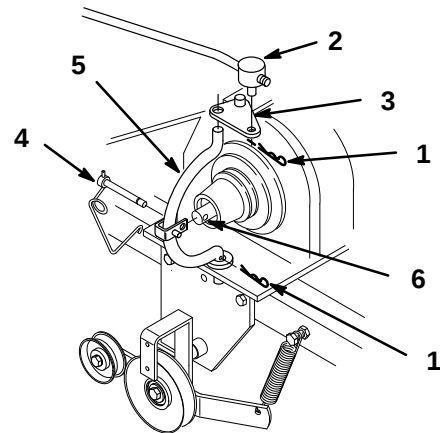

Figure 16
11. Remove hairpin cotter and trunion from PTO engagement plate (Fig. 16).
12. Unlatch and remove clevis pin that secures yoke assembly to clutch shaft and pivot forward to remove from engagement plate (Fig. 16).
13. Loop belt between clutch yoke and engagement plate and place on inner groove of PTO, power take off clutch (Fig. 16).
14. Assemble yoke and engagement plate and attach clevis pin, trunnion and hairpin cotter to secure (Fig. 16).